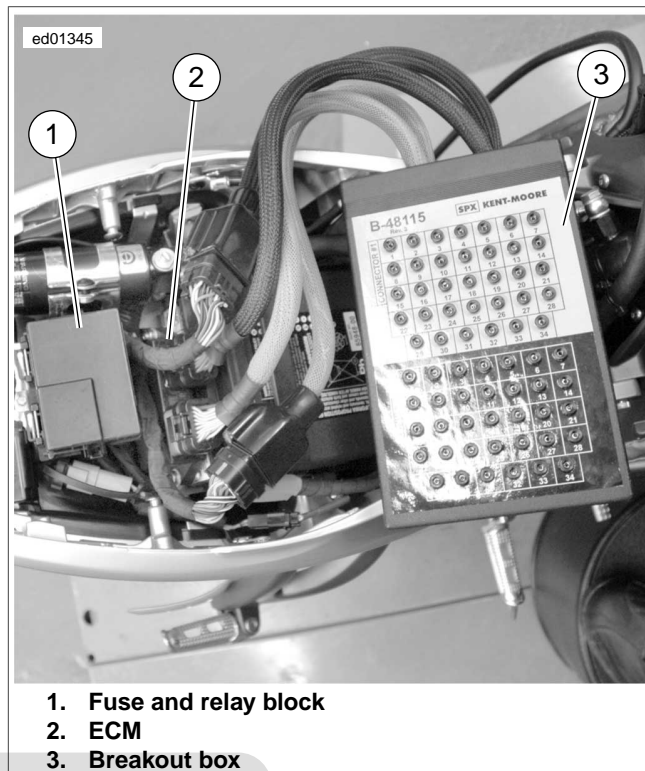
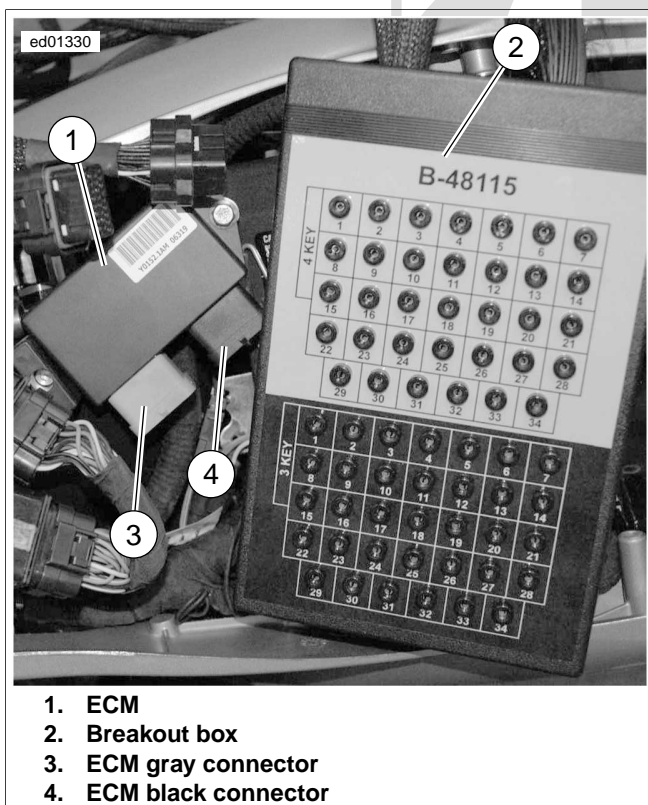
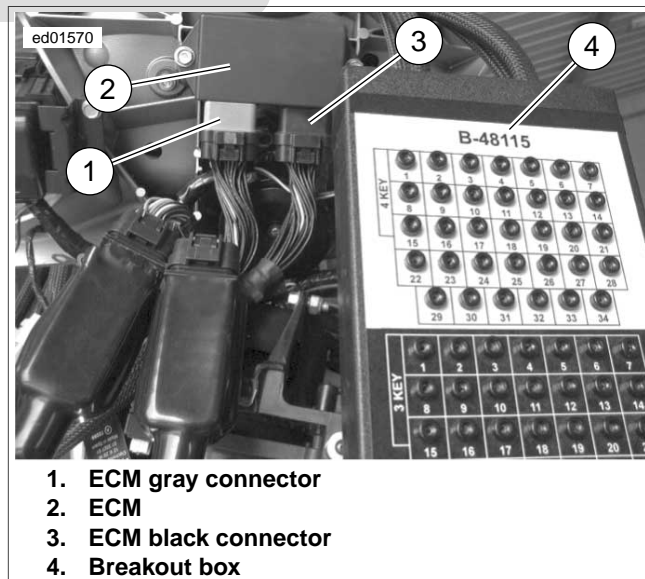

Figure 2-10. ECM and Breakout Box with Connections (Lightning)
Figure 2-9. ECM and Breakout Box with Connections (Ulysses)
Figure 2-11. ECM and Breakout Box with Connections (Firebolt)
- See Figure 2-9, Figure 2-10 and Figure 2-11. Attach Breakout Box to black connector [10].
- See Figure 2-9, Figure 2-10 and Figure 2-11. Depress latches on each side of connectors [10] (black) and [11] (gray).